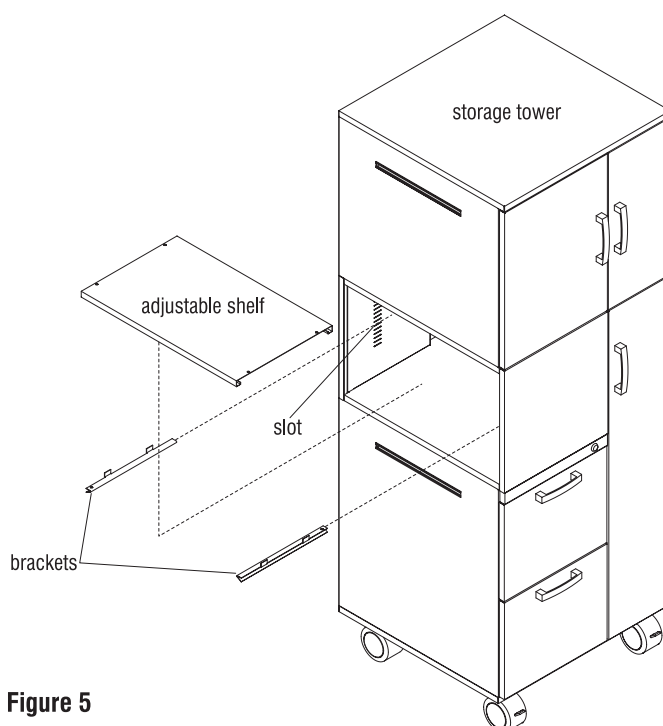

Figure 5
2. Hook the shelf brackets into the slots at the inside of the cabinet as illustrated. Make sure the brackets are at the same height on both sides (Figure 5).
3. Install the shelf by setting it onto the brackets. Make sure the shelf is pushed all the way back into the cabinet (Figure 5).